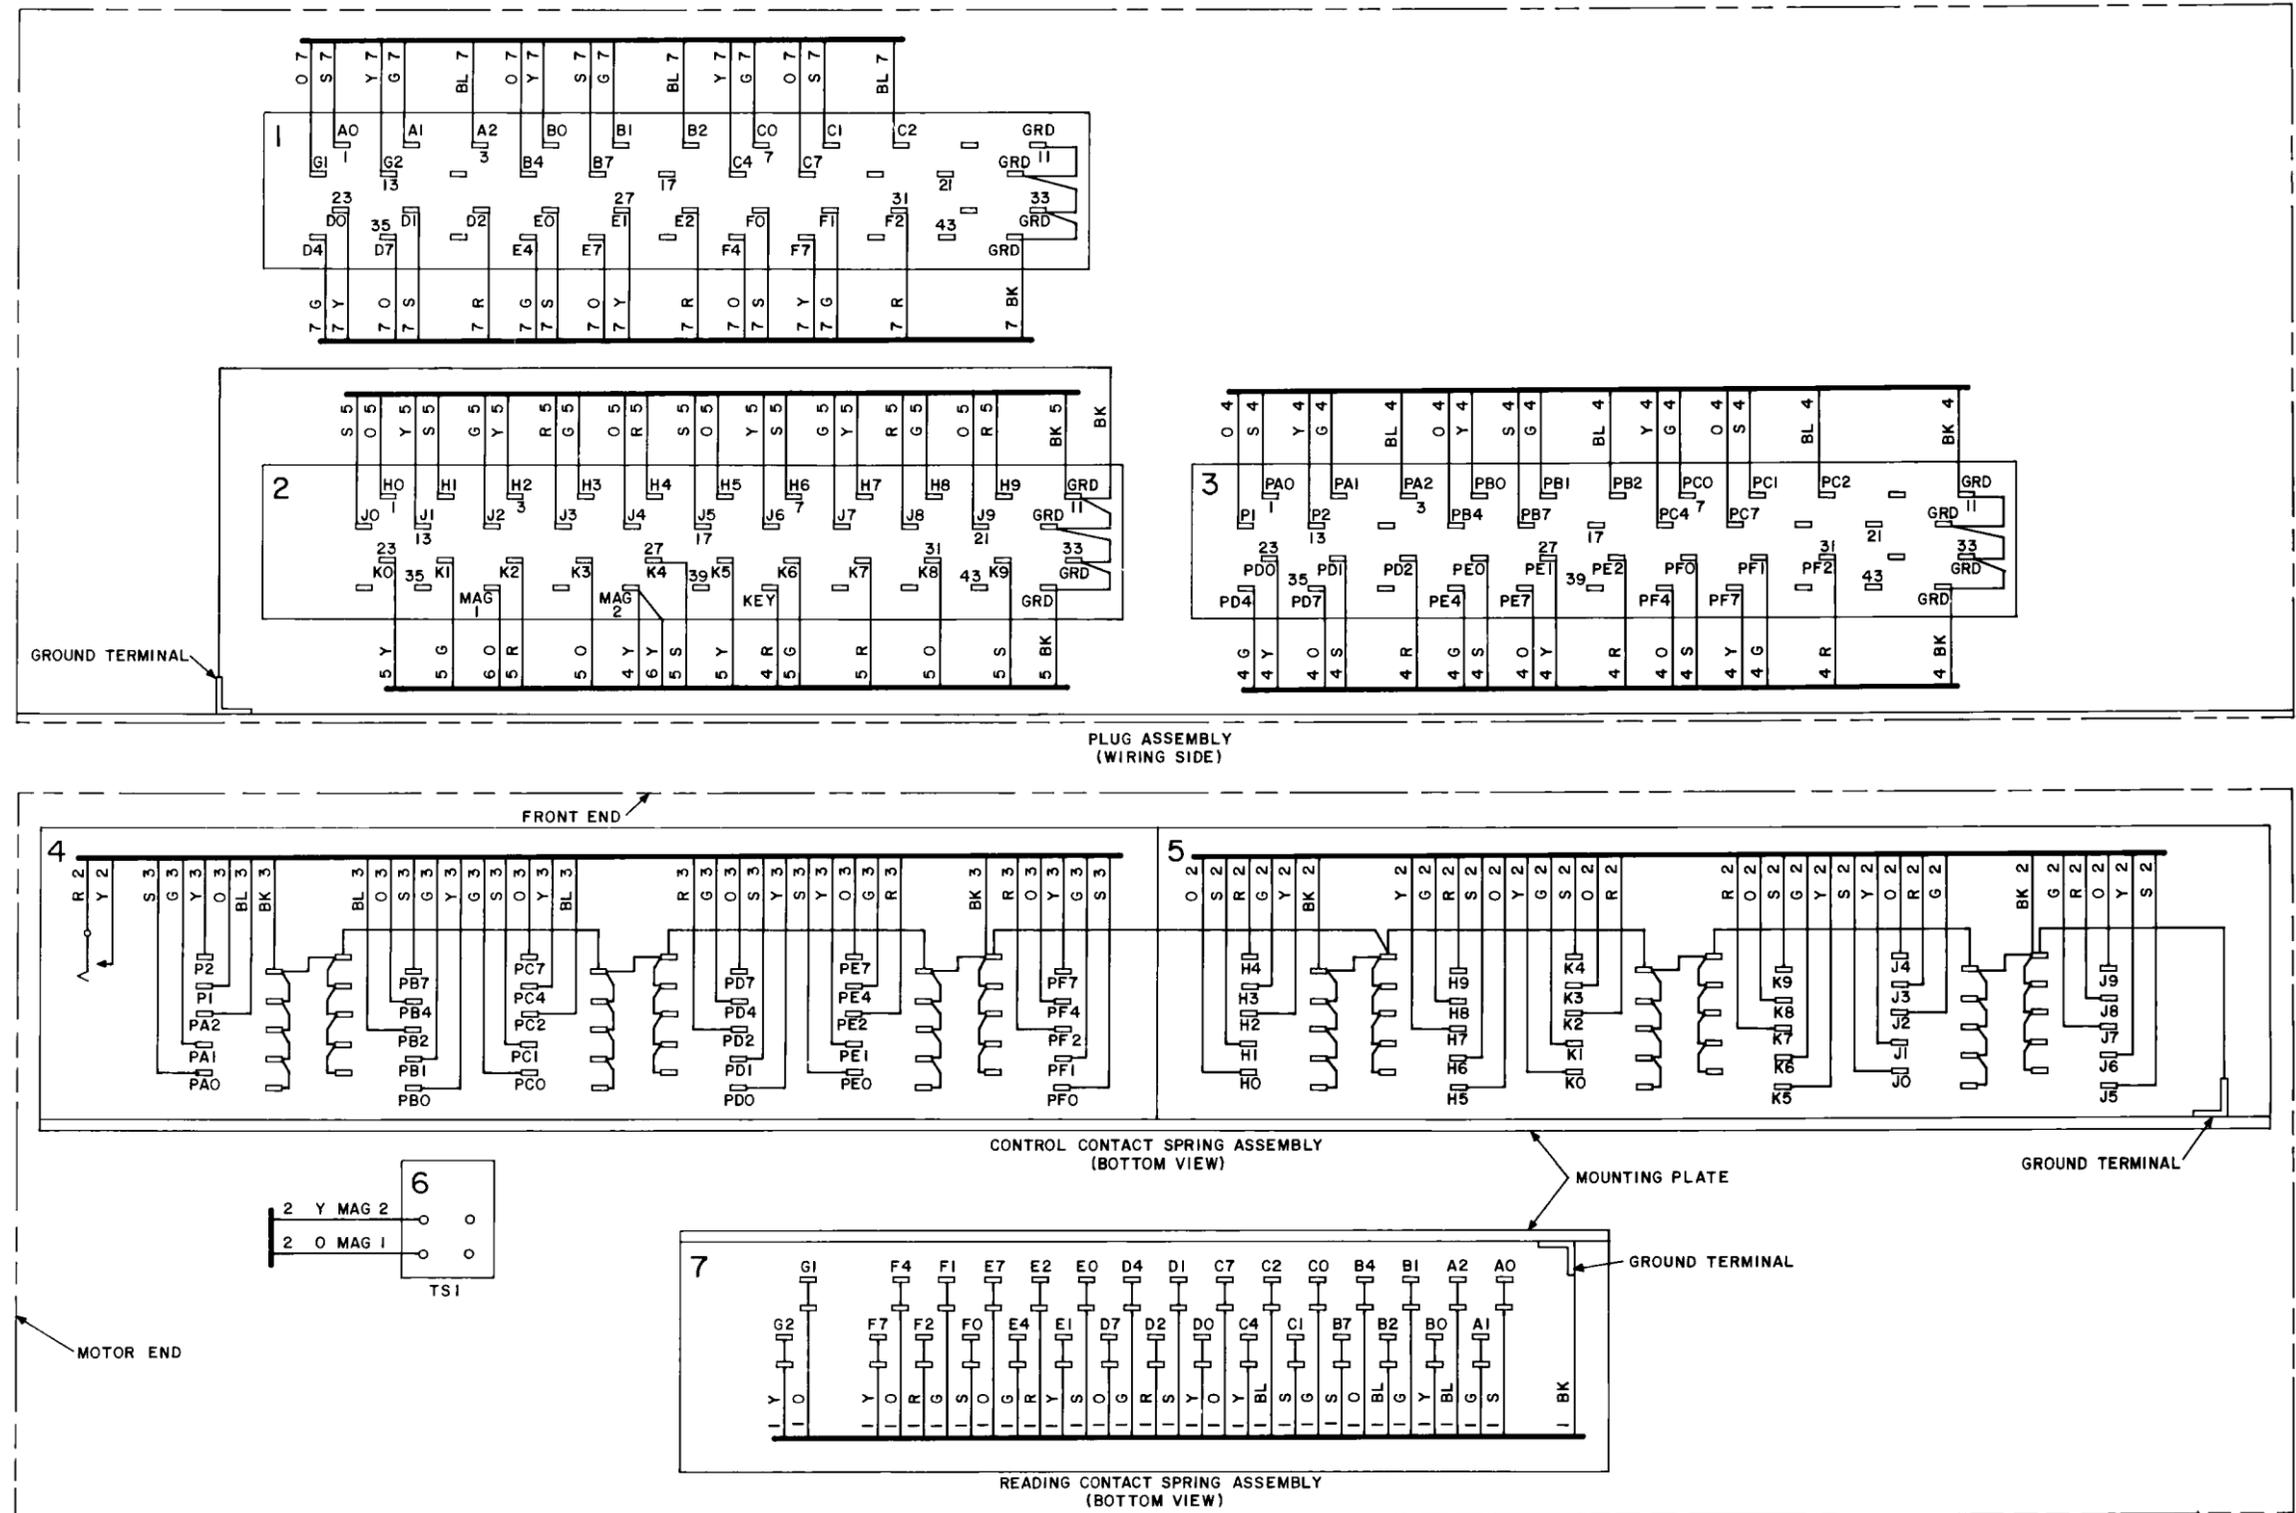

Fig. 32—Wiring Diagram—KS-13835 L1 Reader With Individually Insulated Stationary Springs in Control Spring Assemblies
**3.51** To replace either or both plugs, remove the plug studs of the plug to be replaced using the 417A wrench and move the plug to a position convenient for unsoldering the wires. Unsolder the wires from the plug terminals. Substitute the new plug and solder the wires to the terminals, taking care that they are connected to the correct terminals in accordance with wiring diagrams for the respective readers shown in Fig. 32 through 39.